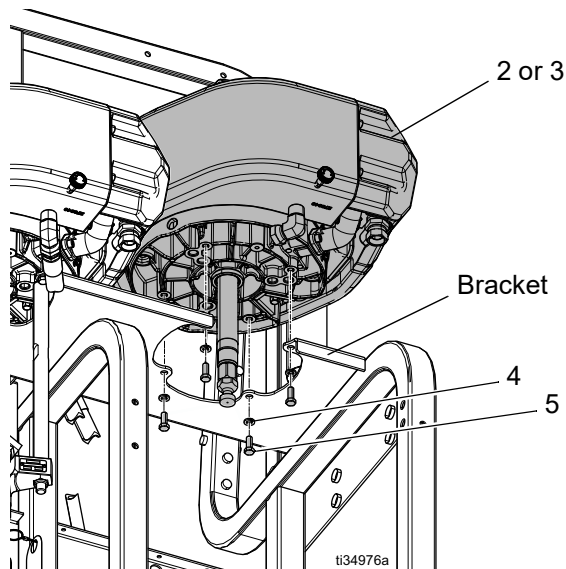

FIG. 7
- b. Remove mounting screws (5) and washers (4) holding air motor (2 or 3) to mounting bracket. See FIG. 7 on page 28.